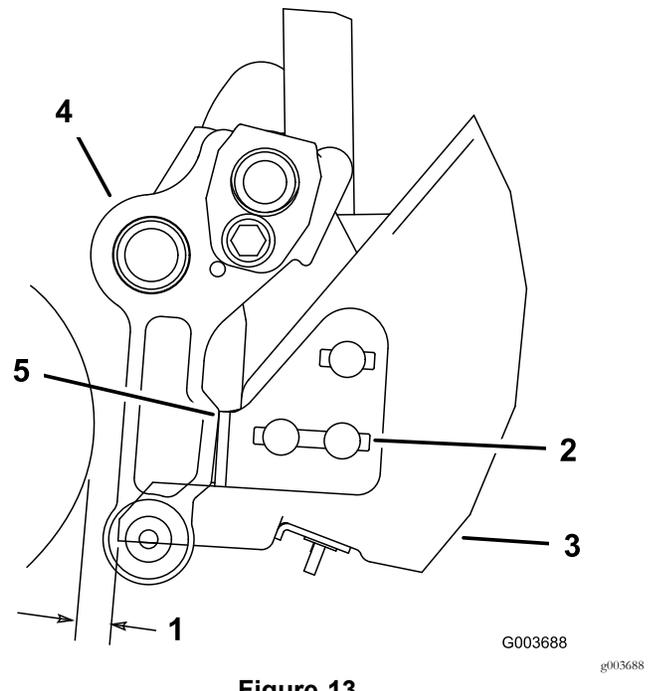

Figure 13
1. On each side of the basket, loosen the nuts on the carriage bolts securing the basket stop brackets to the basket (Figure 13).
2. Position the basket so that it is parallel to the cutting unit with a minimum clearance of 6 mm (0.250 inch) between the lip of the basket and the reel (Figure 13).